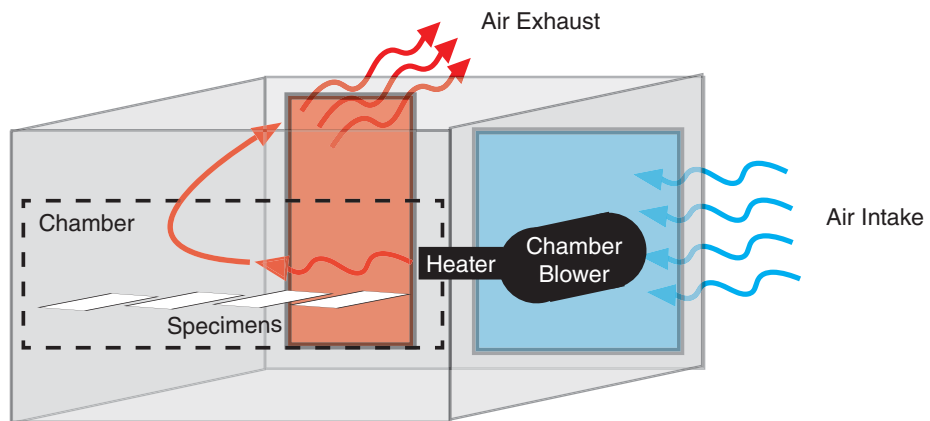

Figure 9.3a: Schematic front view Xe-1-SE air circulation.
- The black panel temperature is controlled using a variable speed blower and an electric heater (Figure 9.3a).